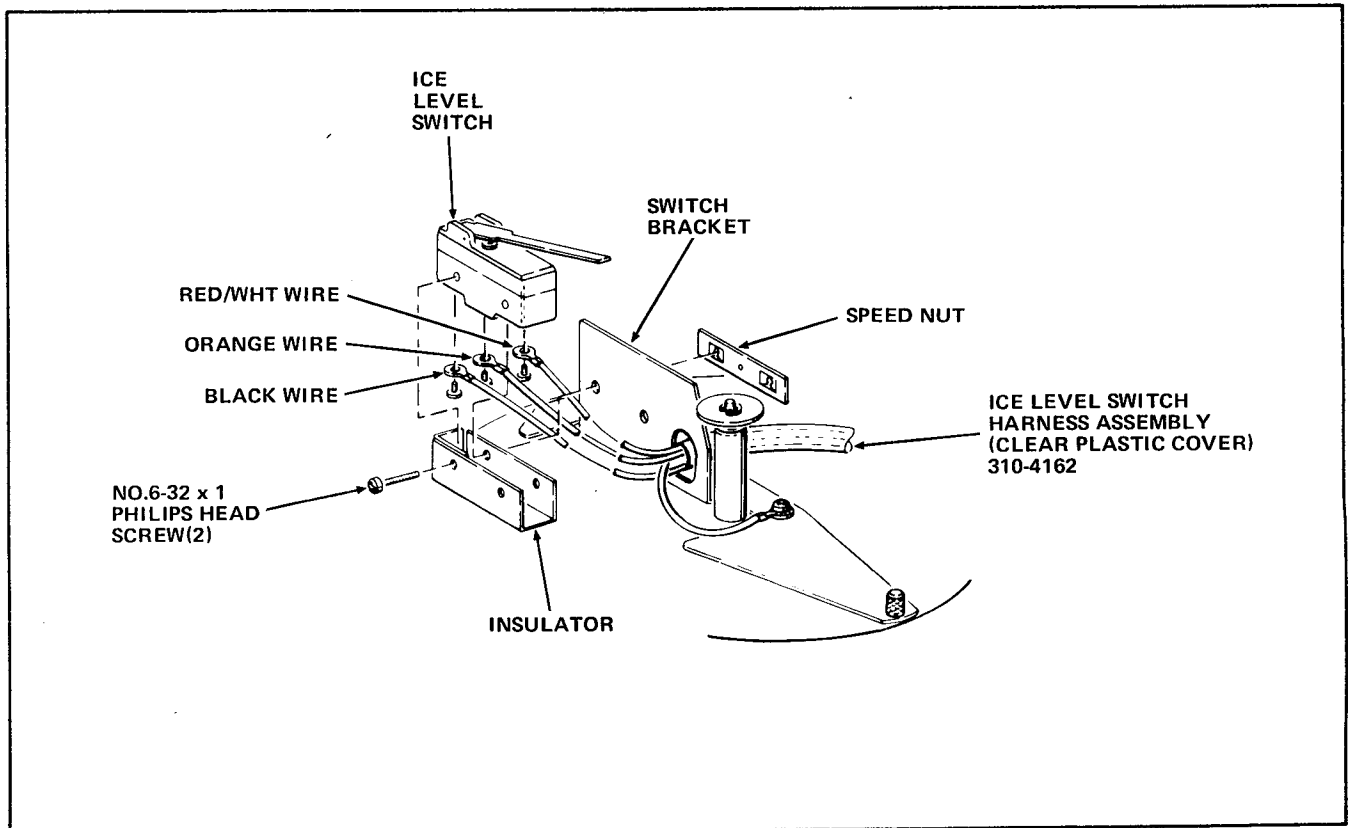

FIGURE III-2
12. Insert the replacement Ice Level Switch Harness Assembly, clear-plastic-covered, (part number 310-4162, included in the Kit) through the hole in the Switch Bracket from which the Cable Assembly was removed in step III-B7. Be sure the end of the Cable with the 4-brass ring-terminals is toward the Switch side of the Switch Bracket. See Figure III-2.